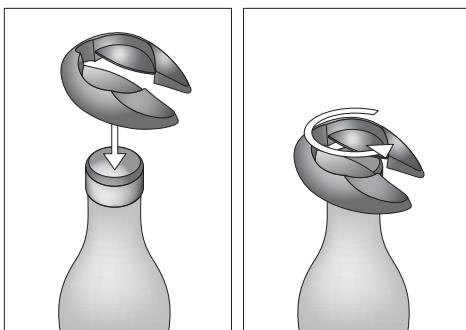

Figure 2
- 1) Use the foil cutter ⑤ to cut open the foil sleeve encasing the bottle cork:
Place the foil cutter ⑤ onto the closed bottle of wine as shown in Figure 2.